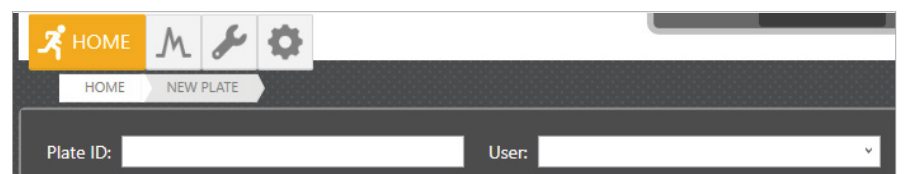

Figure 11. 'Plate ID' and 'User' fields of the plate screen.
2. Use the default Plate ID that includes date and time or enter information into the 'Plate ID' field (Figure 11).
3. If desired, enter user information into the 'User' field (Figure 11).
Note: The 'User' field is a user-defined section that can be used to search or filter previously created or completed plates (refer to the *Spectrum CE System Operating Manual #TMD052* for information on reviewing plate records). Previously entered user information is available via the drop-down option on the right side of the field (Figure 11).